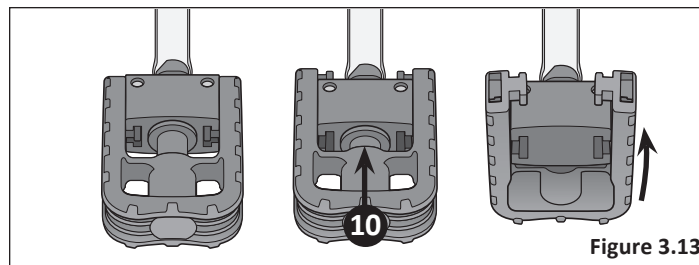

Figure 3.13
- 10 Push the pedal in, and rotate it into the locked position. Repeat for the opposite pedal. **Figure 3.13**